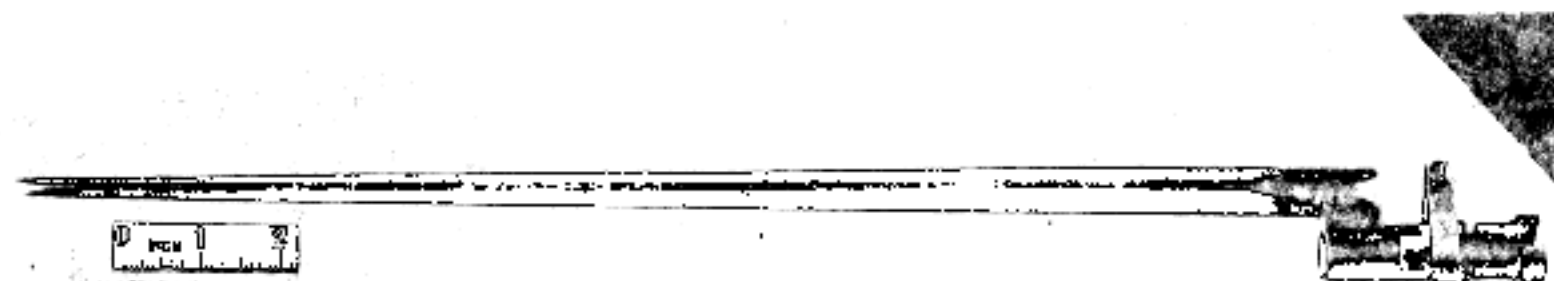

FIGURE 3. BAYONET FOR RIFLE M1891.
c. The detachable fluted bayonet (fig. 3), with an offset sleeve for the barrel, is fastened to the rifle by a locking ring.